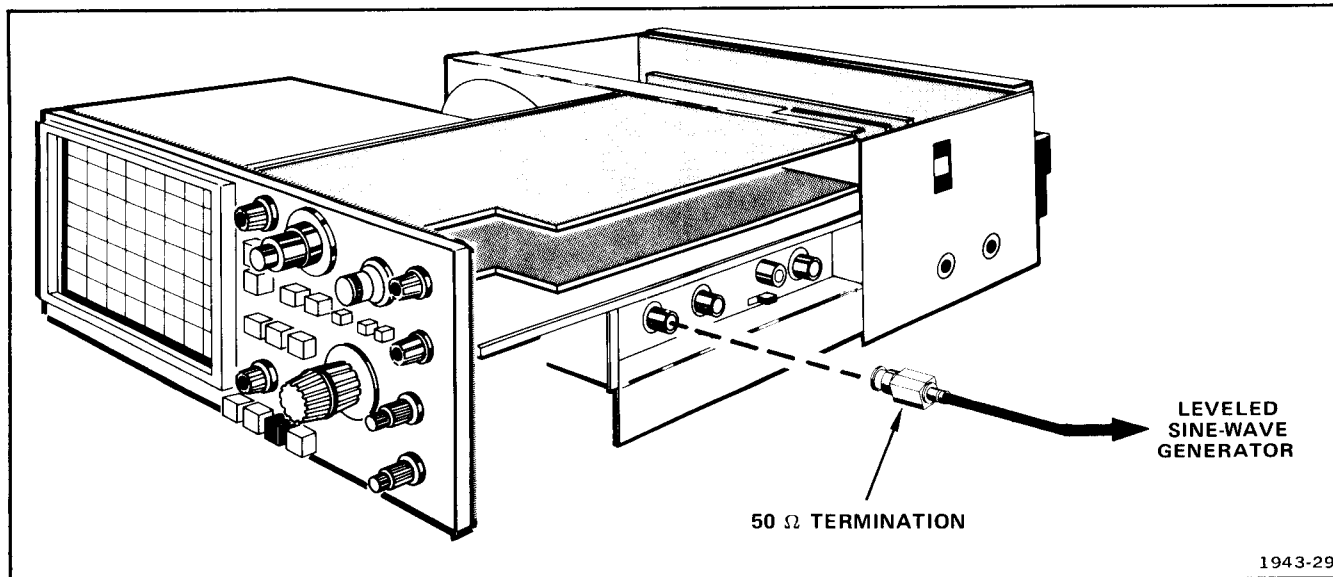

Fig. 6-5. Equipment setup.
a. Connect test equipment as shown in Fig. 6-5.